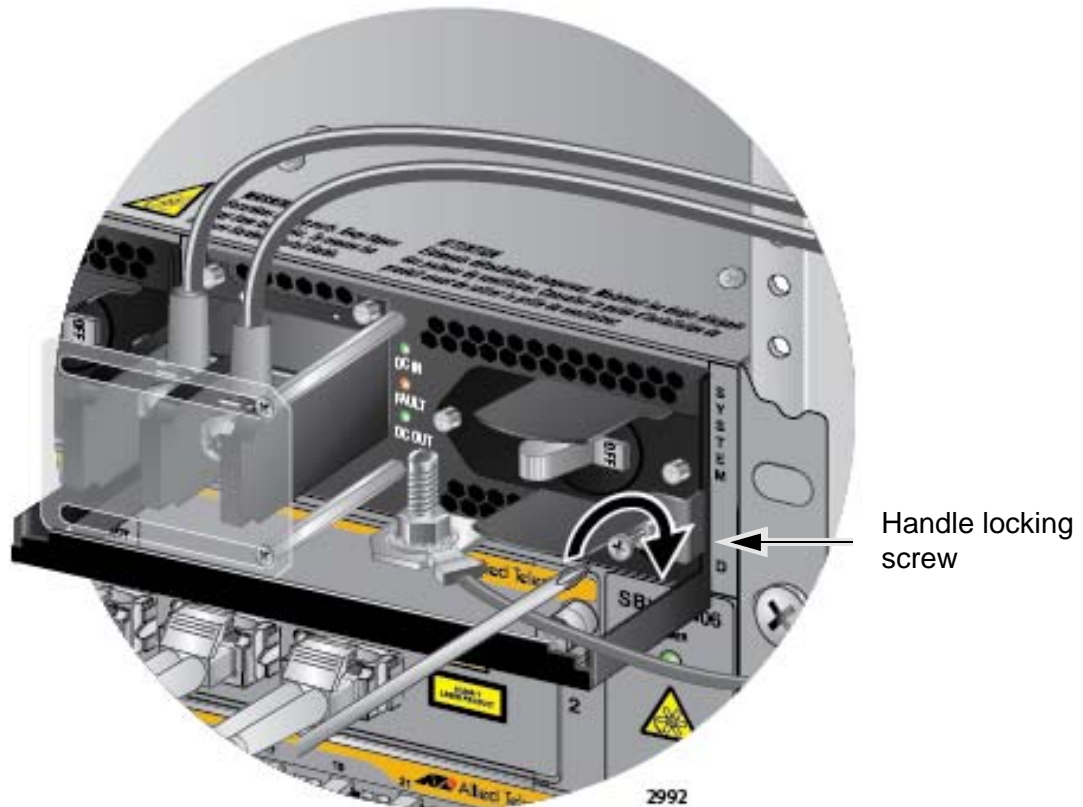

Figure 131. Tightening the Handle Locking Screw
9. With a #2 Phillips-head screwdriver, tighten the handle locking screw to secure the power supply to the chassis. See Figure 131 on page 198.
7. With a #2 Phillips-head screwdriver, tighten the handle locking screw to secure the power supply to the chassis. See Figure 131 on page 198.